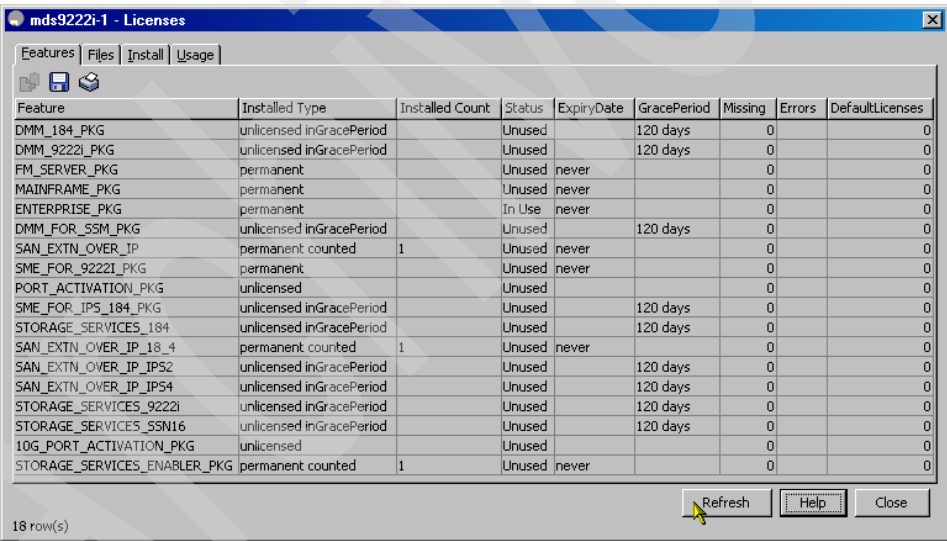

Figure 6-27 Verifying the desired feature is activated
4. Upon completion of the license file installation, click **Refresh** on the Feature tab, and verify that the desired feature has been activated, as shown in Figure 6-27.